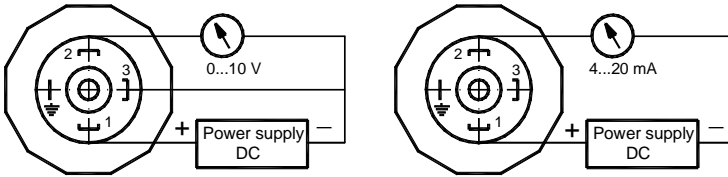
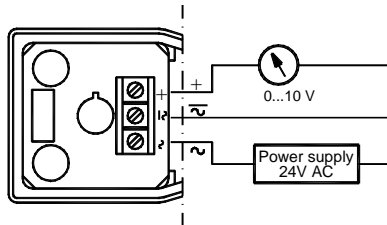

Fig.2a. Transmitter wiring diagrams for DC voltage supply.
Fig.2b. Transmitter wiring diagram for AC voltage supply.
- 5.2. Electrical connectors make in accordance with Fig. 2a for DC supply or Fig. 2b for AC supply. In environments with a large electromagnetic noise the strand or strand in shield line type is recommended. Isolate transmitter signal lines from power electrical supply lines or from big electrical energy receivers. The devices used together with the transmitters should be resistant to electromagnetic interference from the transmission line in accordance with compatibility requirements.